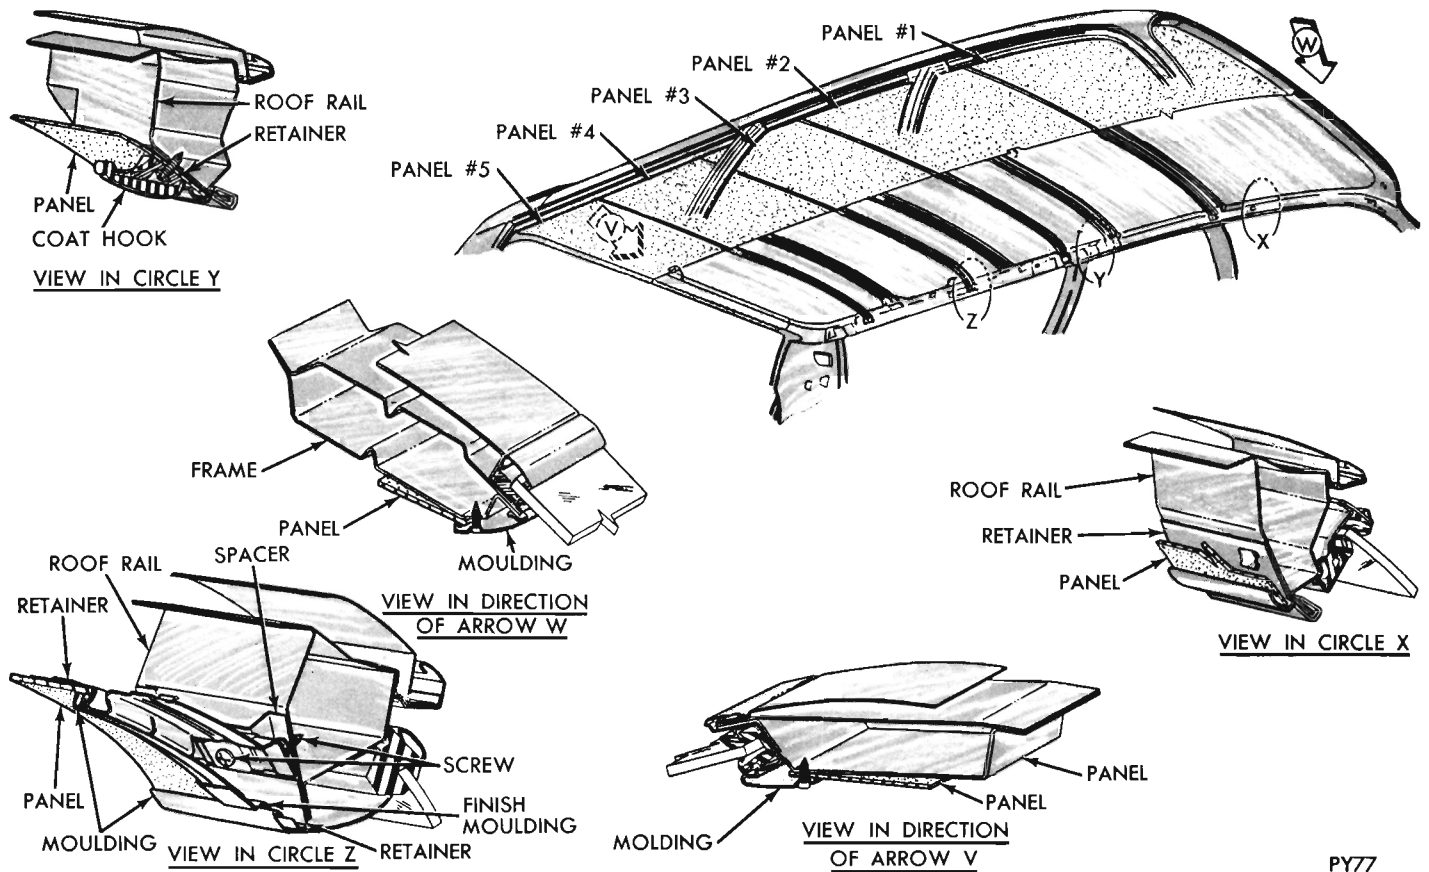

Fig. 15 - Hard Board Panel - Station Wagon
The individual hard board headlining sections are held in position with semi-flexible type plastic mouldings (Figs. 15 and 16) forced over the retainer sections of the roof bows. Starting at either outer end, remove end cap and pry the moulding off retainer. When installing moulding make certain it is fully seated and evenly spaced from side to side. Install end caps in retainer and over moulding ends.
(1) Remove plastic mouldings (Figs. 15 and 16)